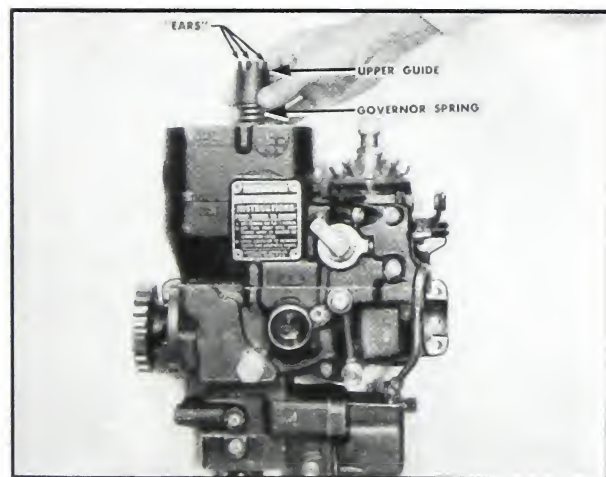

Fig. 5-353. Install spring and guide
9. Follow the lower spring guide with the governor spring and upper spring guide. Fig. 5-353. The guide must be positioned so the throttle yoke will fit between the prongs on the guide.